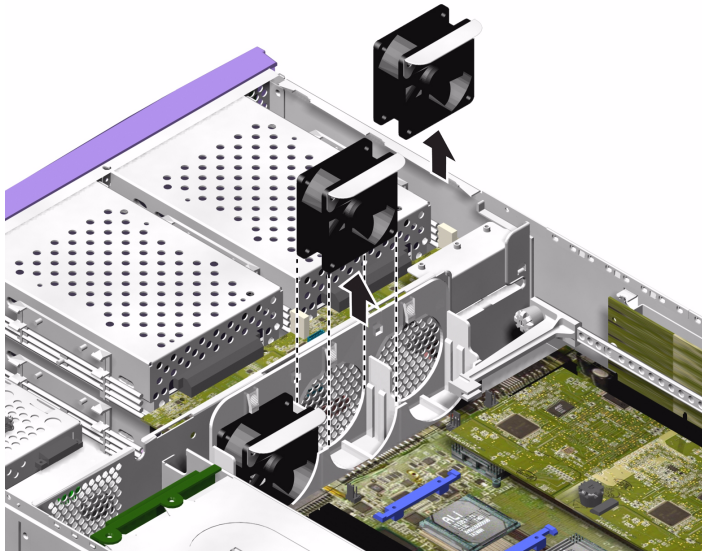

FIGURE 1-18 Removing Fans (Sun Fire V240 Server)
4. **Lift the fan out of the chassis** (FIGURE 1-18).